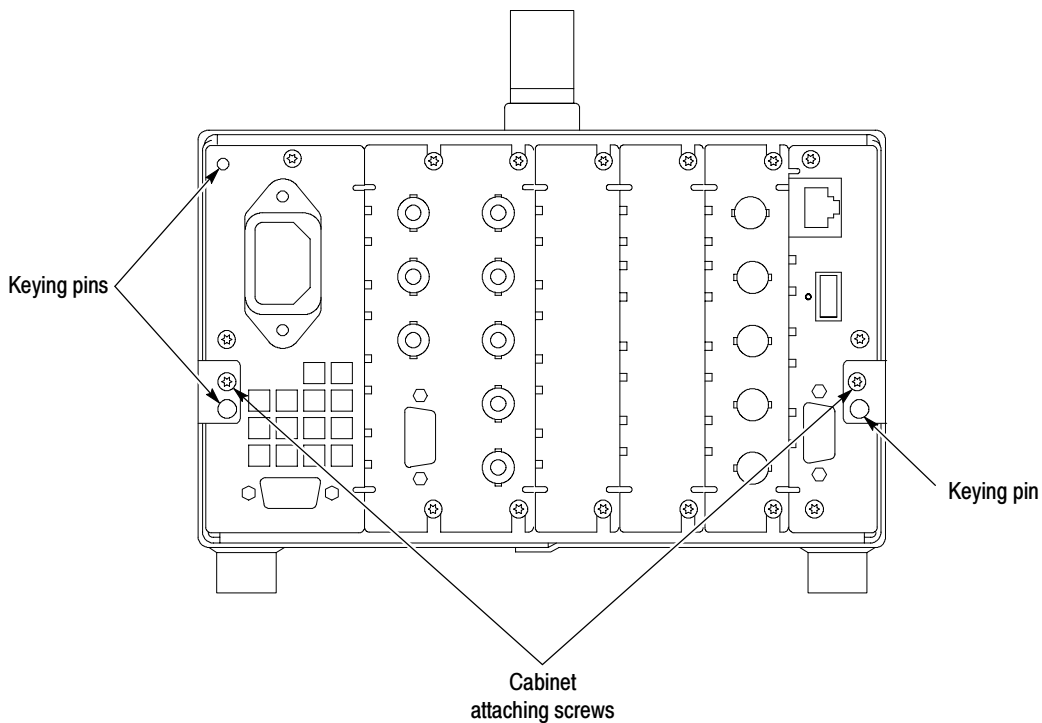

Figure 3: Rear panel attaching screws
2. If your instrument already has cabinet attaching screws (see Figure 3 for locations), remove the screws.
CAUTION. Do not force the instrument into the cabinet. Key pins on the WFM7F02 cabinet tabs (shown in Figure 3) are designed to work only with a WFM700 instrument. Attempting to force an instrument into the cabinet may damage the tabs.
- At the rear of the cabinet, reinstall the two attaching screws through the left and right tabs and into the instrument chassis. If your instrument did not already have attaching screws, use the two screws provided in this kit. See Figure 3.